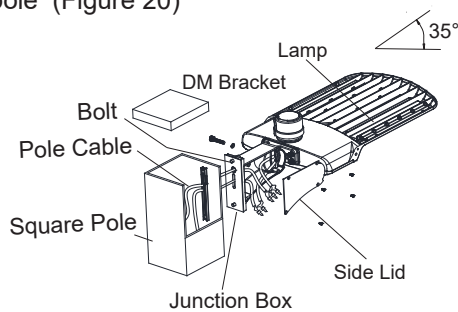

Figure 18
3. DIRECT MOUNTING (DM)
Step 1: Fix DM bracket to square pole with bolt, open the side lid of DM bracket, pull the wire into junction box, and connect the wire correctly. (Figure 18)
Notice: Adjustable angle is 0-35°(Figure 18).